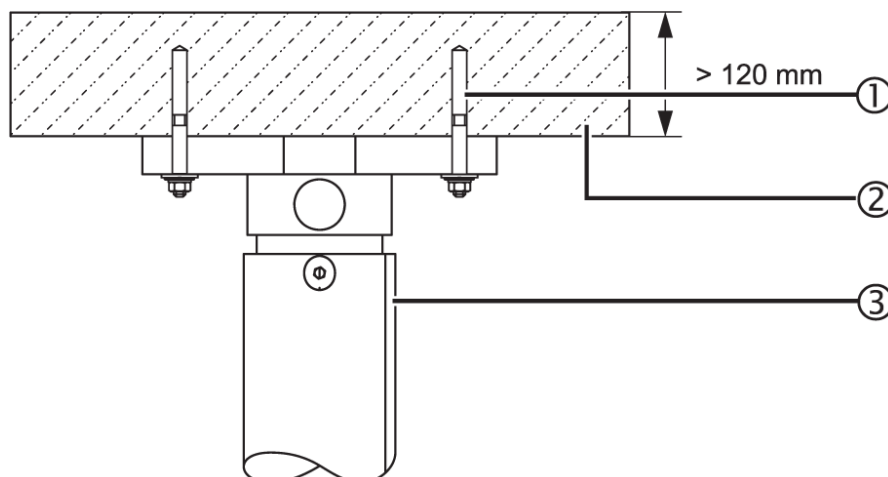

Figure 3
Ceiling column fixed with heavy load anchors (see figure 3)
1.1.2 When using heavy load anchors (see figure 3)